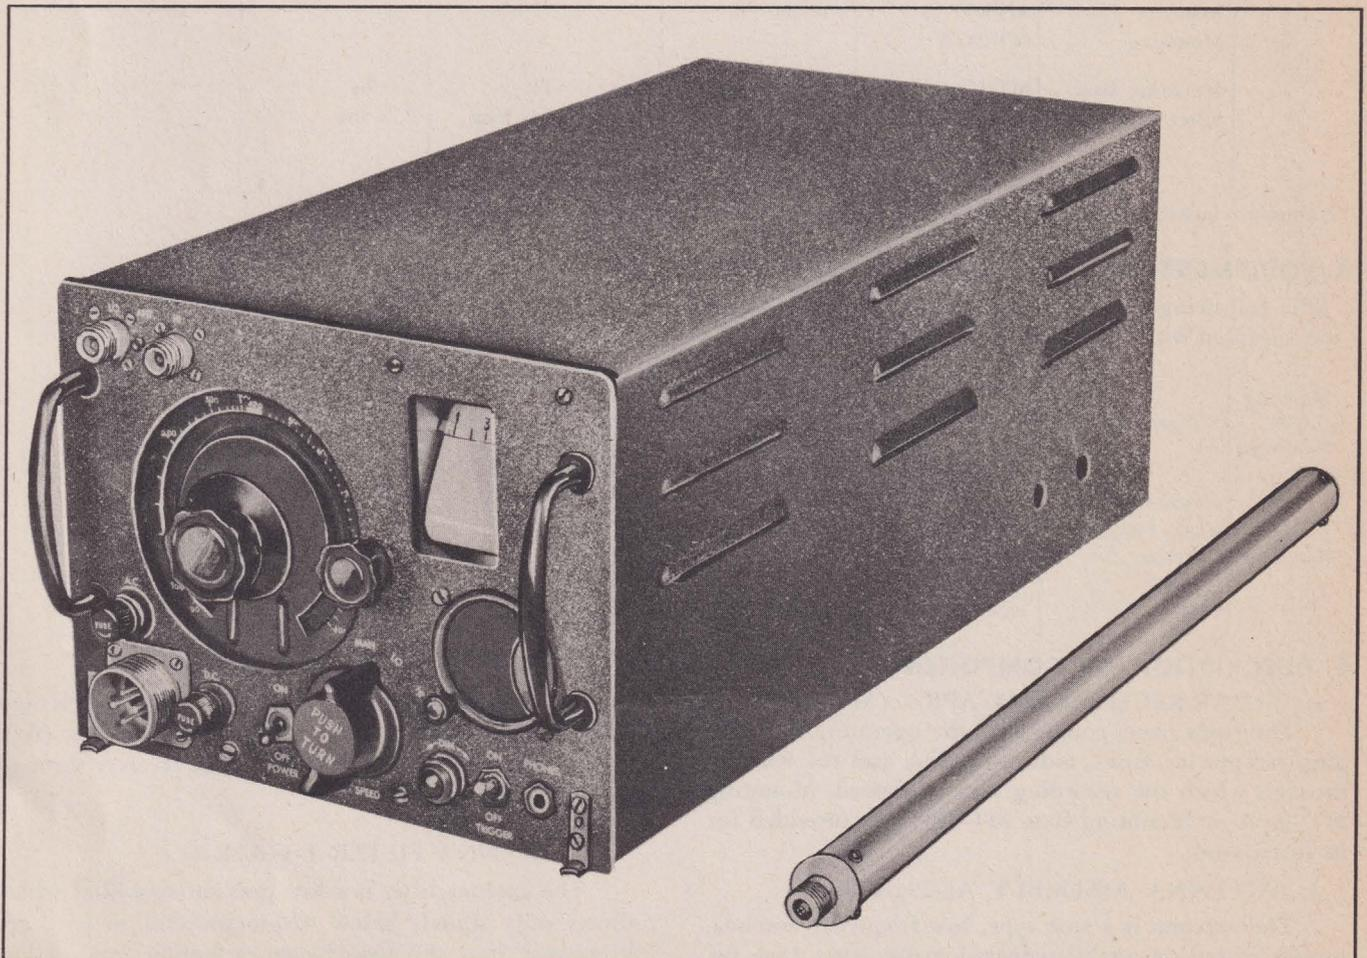

Figure 1-1. Radar Receiver R-34/APR-2 And Antenna Filter F-3/APR-2
a. RADAR RECEIVER R-34/APR-2. (See figure 1-1.)
(1) The filter (fig. 1-1) may be placed anywhere in series with the coaxial cable connecting the low-frequency antenna (Antenna Assembly AS-25/APR-2) with the receiver. (See subparagraphs *d*(1) (*a*) and (*b*), this Section.)
(2) Location near the receiver will allow tests to be made more conveniently with and without the filter.
(3) Mount the filter with two AN-742-20C clips, loop type, tube.
(4) Use care not to dent the casing.
(5) Allow three to four inch clearances at the ends to permit attachment of Radio Frequency Plug UG-21/U.